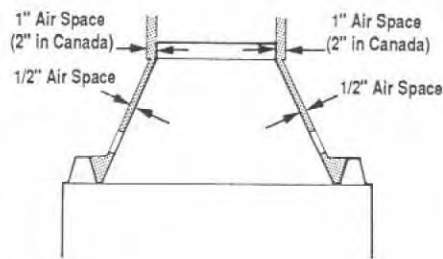

Figure 11
**CAUTION: ALLOW MINIMUM 1" (25MM) (SEE \*\*NOTE) CHIMNEY AIR SPACE TO COMBUSTIBLE FRAMING MEMBERS WITHOUT VERTICAL OR OFFSET CHIMNEY INSTALLATION. ALSO MAINTAIN AIR SPACE ON TOP OF THE FIREPLACE AS DEFINED BY THE SPACERS AND STANDOFFS (FIGURE 11).**